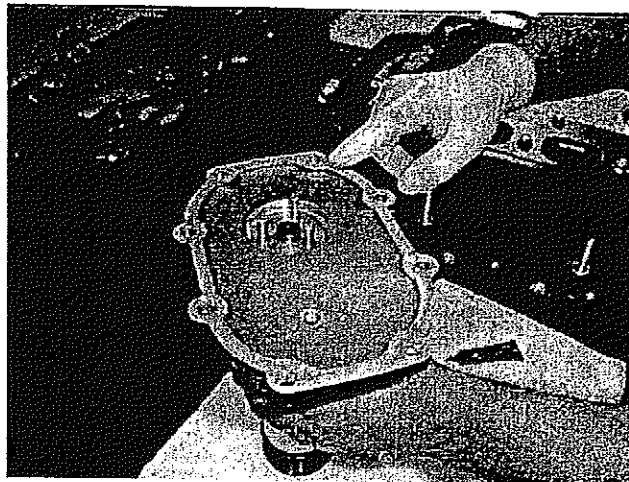

Figure 22
10. Spread a thin layer of the provided Loctite[™] Gasket Eliminator Sealant to the sealing surface of the nose drive assembly (Figure 22).